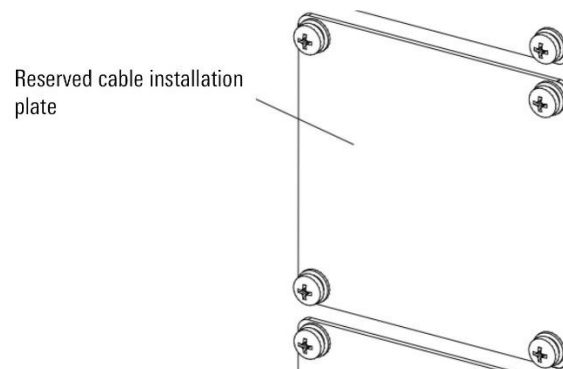
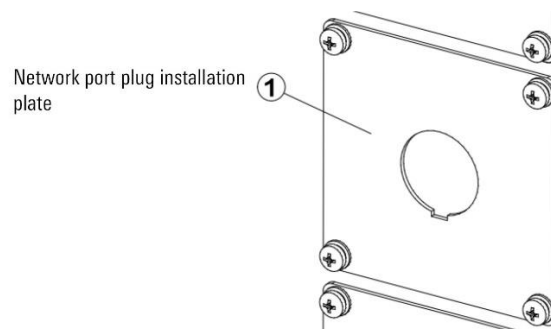

Figure 11-4 Reserved cable installation plate
Figure 11-5 Network port plug installation plate
Step1. Use a Phillips screwdriver to remove the original reserved cable installation plate (refer to Figure 11-4), and remove the① network port plug installation plate (refer to Figure 11-5) installed on the cabinet.